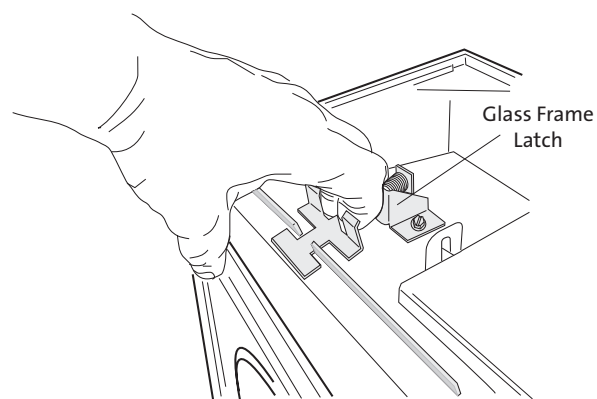

Figure 10. Pull spring latch to disengage from glass frame.
2. To open the firebox, disengage the two Glass Frame Latches located on top of the firebox. Pull each handle forward to clear the latch from the notch in the frame. See fig. 10.